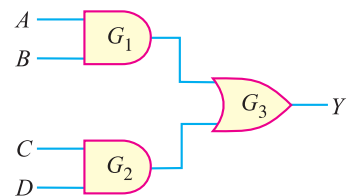
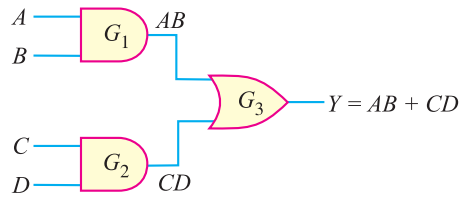

Fig. 26.46
Fig. 26.47
The output of a logic circuit for the given inputs can be determined directly from the circuit *without* using the Boolean expression. The procedure is to take a given set of inputs and work through each gate of the circuit to determine the final output. Let us illustrate the procedure with an example. Consider the logic circuit shown in Fig. 26.46. It consists of two AND gates and one OR gate. Each of the three gates has two input variables. Each of the input variables can be either a high (1) or a low (0). Since there are four input variables, there are 16 possible combinations of the input variables ($2^4 = 16$). We shall develop the truth table for the circuit without using the Boolean expression for the circuit.
Note. We can also construct the truth table by developing the Boolean expression from the logic circuit. The logic circuit shown above (See Fig. 26.46) is redrawn as shown in Fig. 26.47. The Boolean expression for this logic circuit is